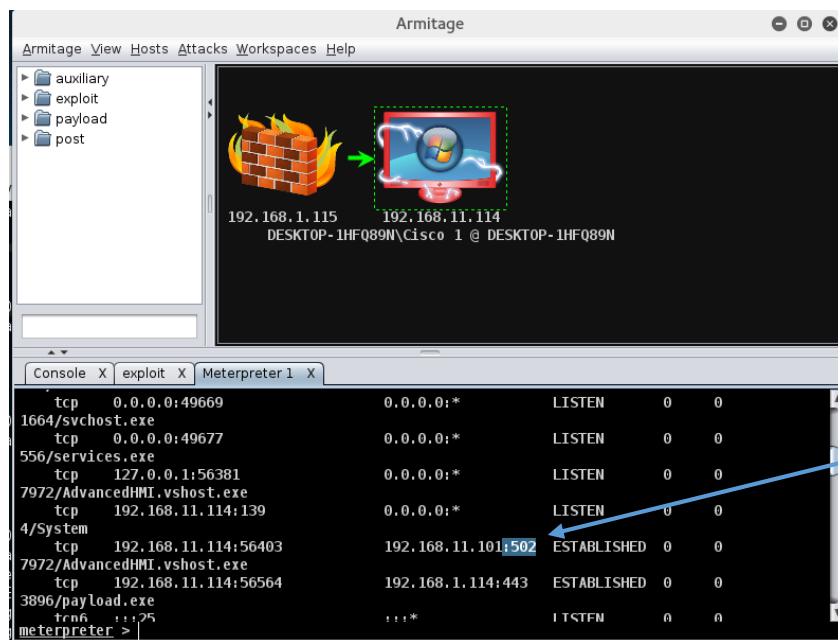

**Fig 16**
3. Use the *session -i [session ID]* command to exploit the device. In this case, if the user has clicked on the executable, a session will be established. In this case, **Session ID 1**. Fig 16